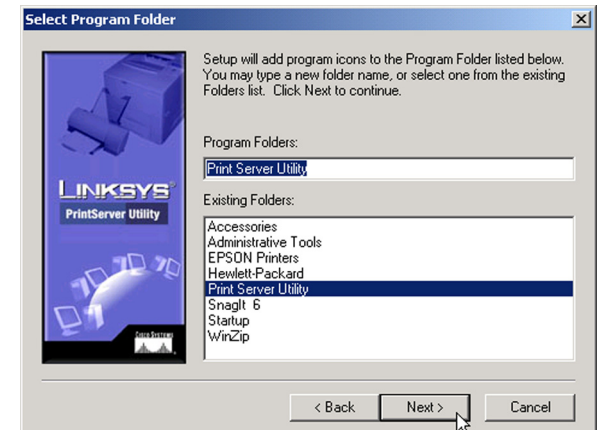

Figure 5-4: Select Program Folder
5. The next screen to appear is Select Program Folder, shown in Figure 5-4. An icon will be added to the program folder listed. You may change the name for the program folder, if you wish. Click **Next**.